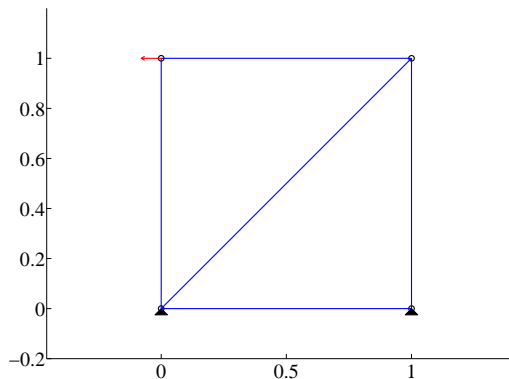

Figure 3: Truss Exercise 1
2. Construct data structures for the following two truss structures shown in the Figures 3 and 4. using the file `mesh_data_truss_example.m` as a starting point.
- Figure 3: The structure is pinned at both supports and has a load of $(-1, 0)$ at the top left node.